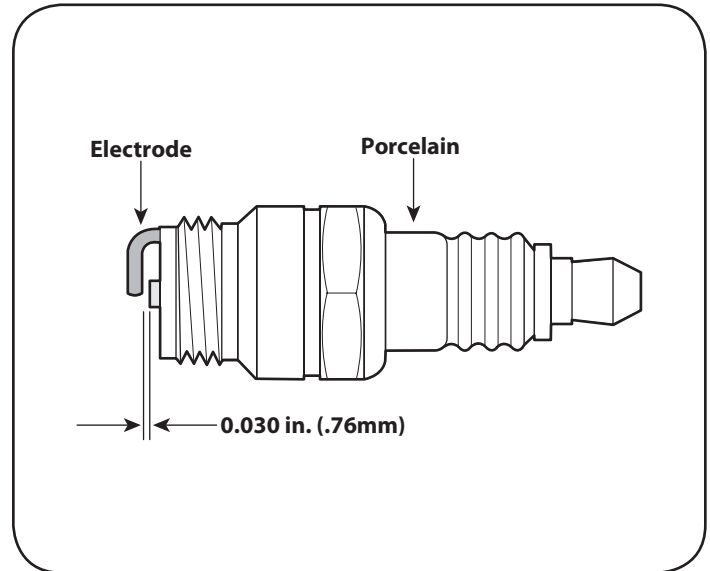

Figure 16
4. Check the gap with a wire gauge. See Figure 16. Spark plug gap should be 0.030 in (0.76 mm). If necessary, reset the gap.